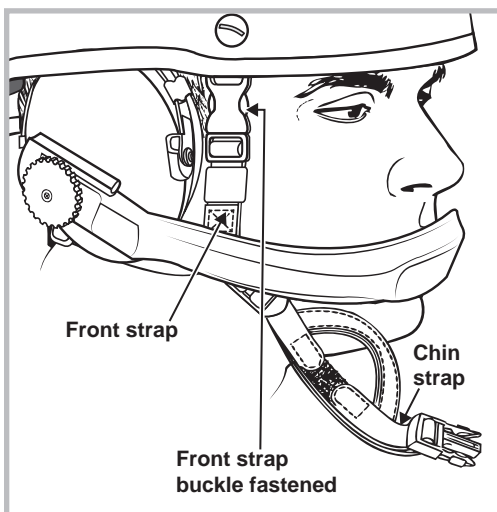

Figure 5. Front Strap Behind Microphone
- b. Position the front strap behind the microphone, and fasten the front strap buckle (**Figure 5**).